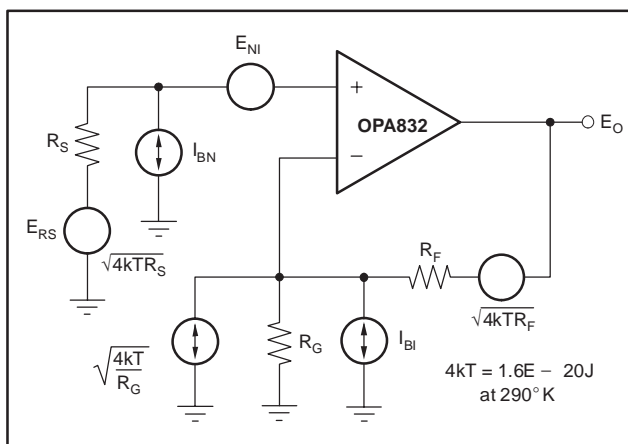

Figure 10. Noise Analysis Model
Unity-gain stable, rail-to-rail (RR) output, voltage-feedback op amps usually show a higher input noise voltage. The 9.2nV/√Hz input voltage noise for the OPA832 however, is much lower than comparable amplifiers. The input-referred voltage noise and the two input-referred current noise terms (2.8pA/√Hz) combine to give low output noise under a wide variety of operating conditions. Figure 10 shows the op amp noise analysis model with all the noise terms included. In this model, all noise terms are taken to be noise voltage or current density terms in either nV/√Hz or pA/√Hz.
The total output spot noise voltage can be computed as the square root of the sum of all squared output noise voltage contributors. Equation 1 shows the general form for the output noise voltage using the terms shown in Figure 10: